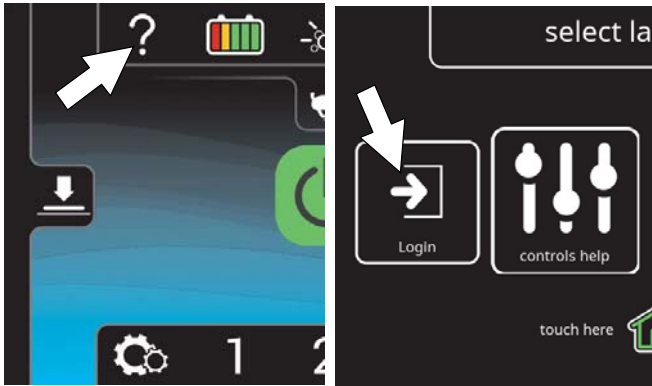

FIG. 170
2. Press the help button and log into the machine as supervisor mode (Figure 170). See *Entering the Supervisor Mode*.